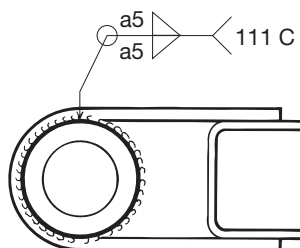

Figure 1
- Remove the drawbar and weld round the sleeves on both sides. Suitable welding rod according to ISO E515B120 20 H or AWS E 7018. See figure 1.